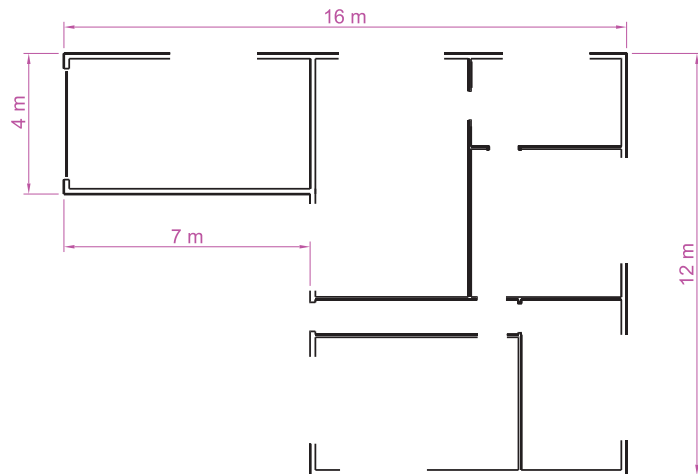

Fig. 9.5 First example – inserting blocks. Outline plan
Ensure that all the symbols saved as blocks using the **Create** tool are saved in the data of the drawing in which the symbols were constructed, erase the drawings of the symbols and in their place construct the outline of the plan of a bungalow to a scale of 1:50 (Fig. 9.5). Then proceed as follows:
3. With the outline plan (Fig. 9.5) on screen the symbols can all be *dragged* into position from the **DesignCenter**.